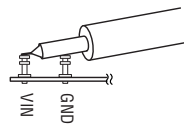

Figure 2. Measuring Input or Output Ripple
**NOTE.** When measuring the input or output voltage ripple, care must be taken to avoid a long ground lead on the oscilloscope probe. Measure the input or output voltage ripple by touching the probe tip directly across the VIN and GND or CPO and GND terminals. See Figure 2 for proper scope probe technique.